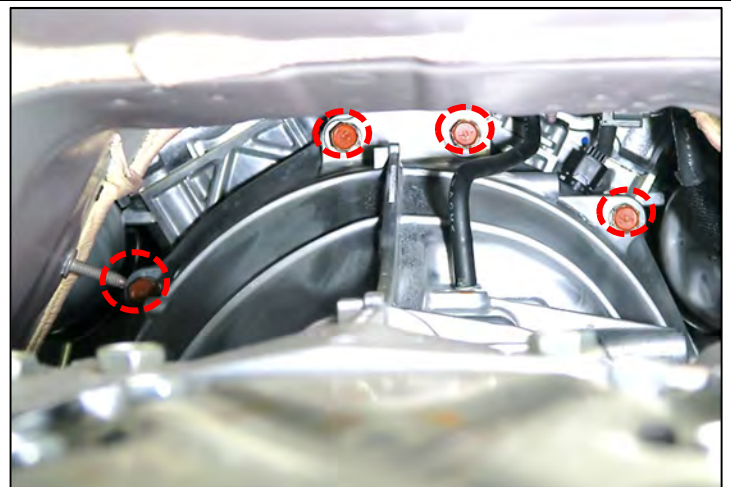

Figure 65
65. Remove the (4) upper transmission to engine mounting bolts. (Figure 65)